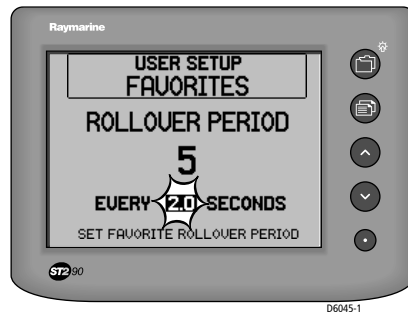

Figure 2-7: Set rollover
- Select the ROLLOVER PERIOD page (see *Figure 2-7*).